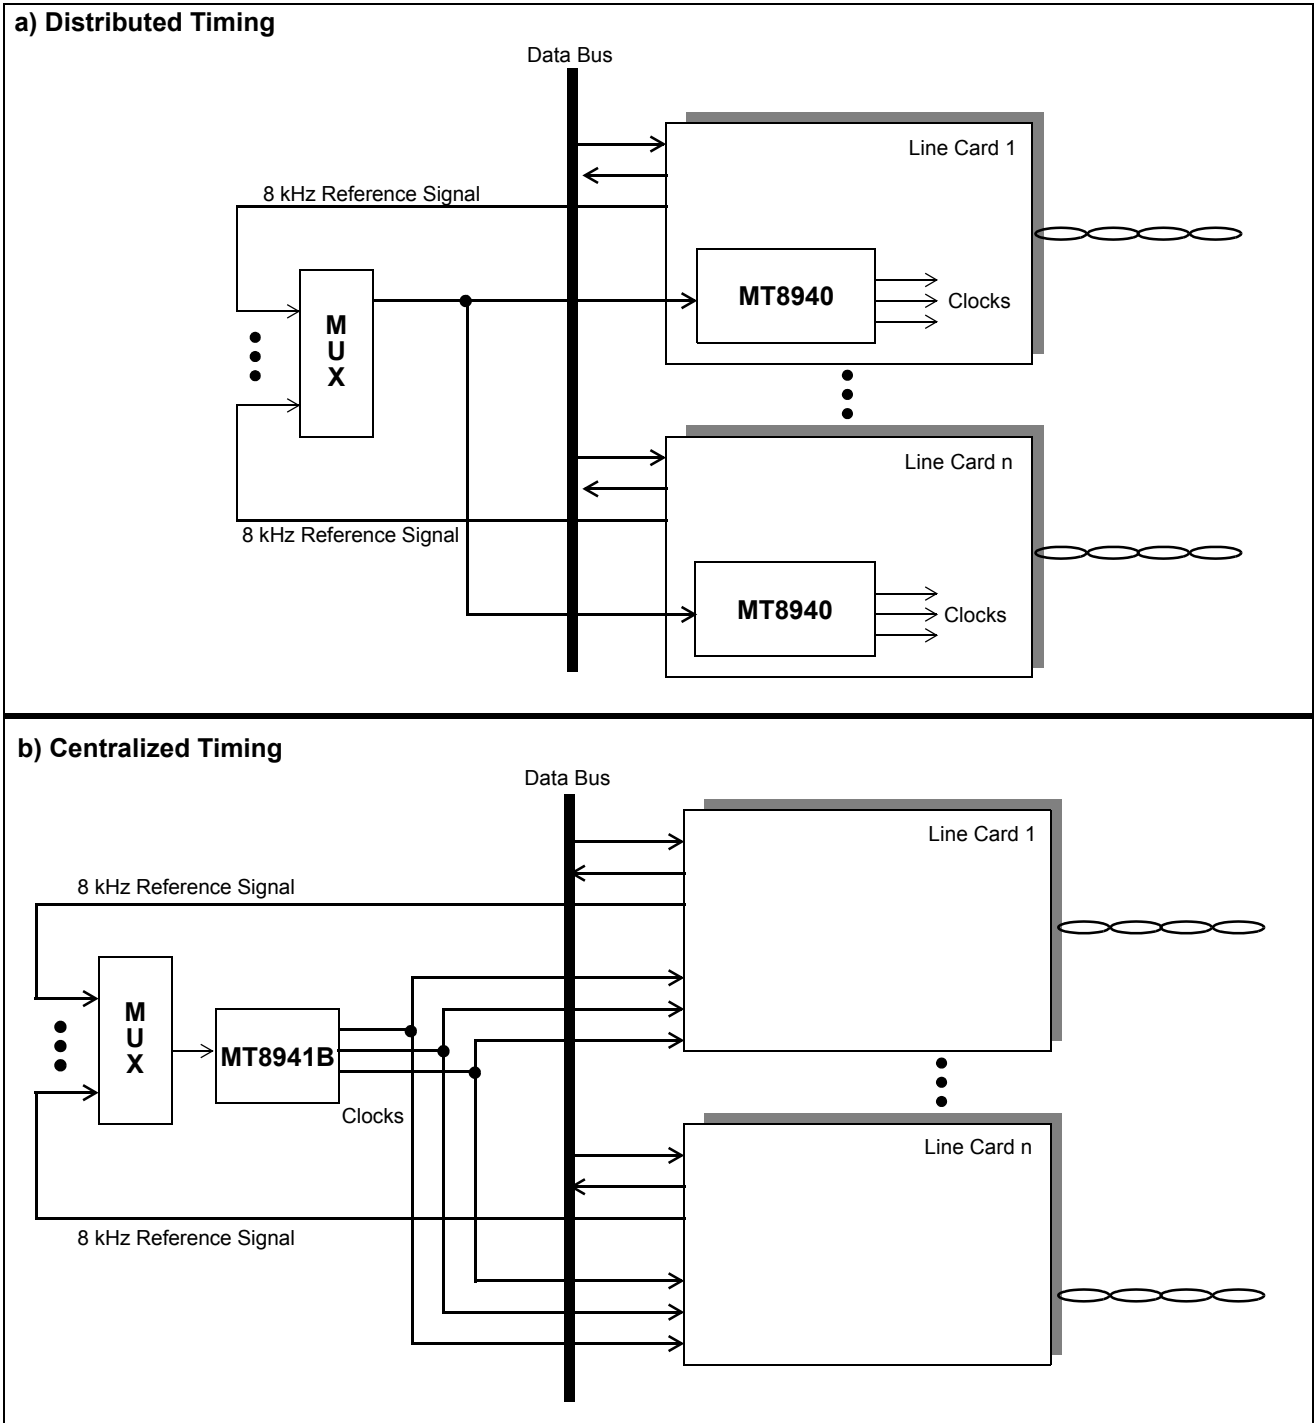

Figure 8 - Application Differences between the MT8940 and MT8941B
2. The MT8941B includes a no-correction window to filter out low frequency jitter and wander as illustrated in Figure 4. Consequently, there is no constant phase relationship between reference signal \overline{FOi} of DPLL # 1 or C8Kb of DPLL #2 and the output clocks of DPLL #1 or DPLL #2. Figure 4 shows the new phase relationship between C8Kb and the DPLL #2 output clocks. Figure 8 illustrates an application where the MT8941B cannot replace the MT8940 and suggests an alternative solution.